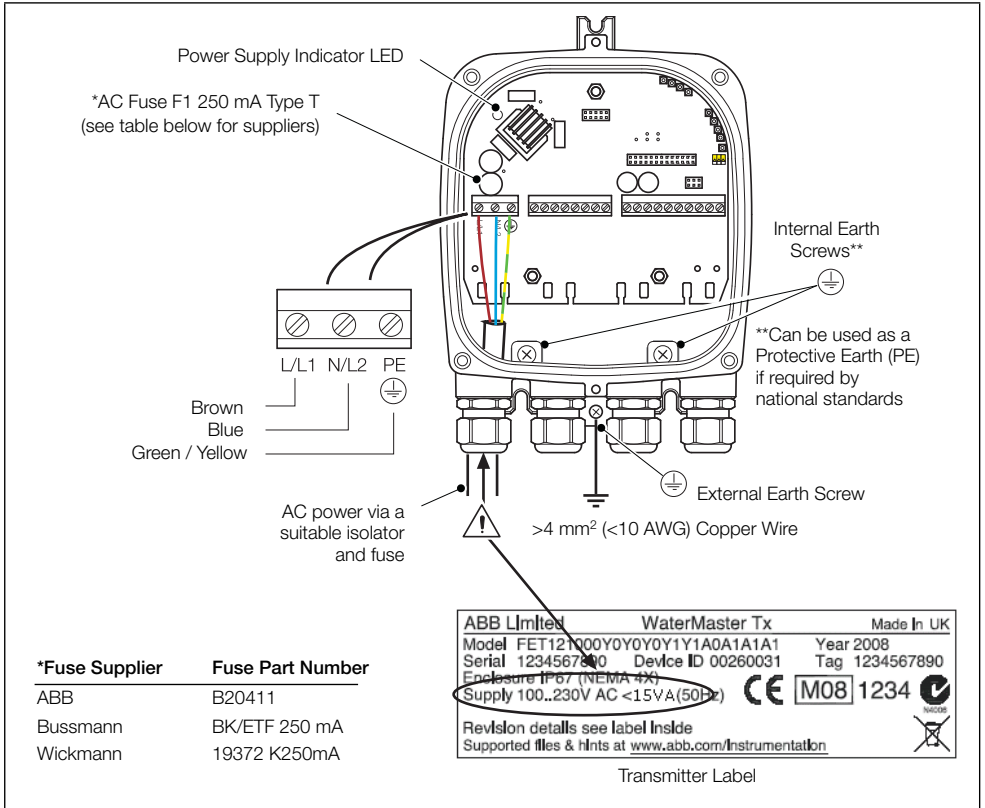
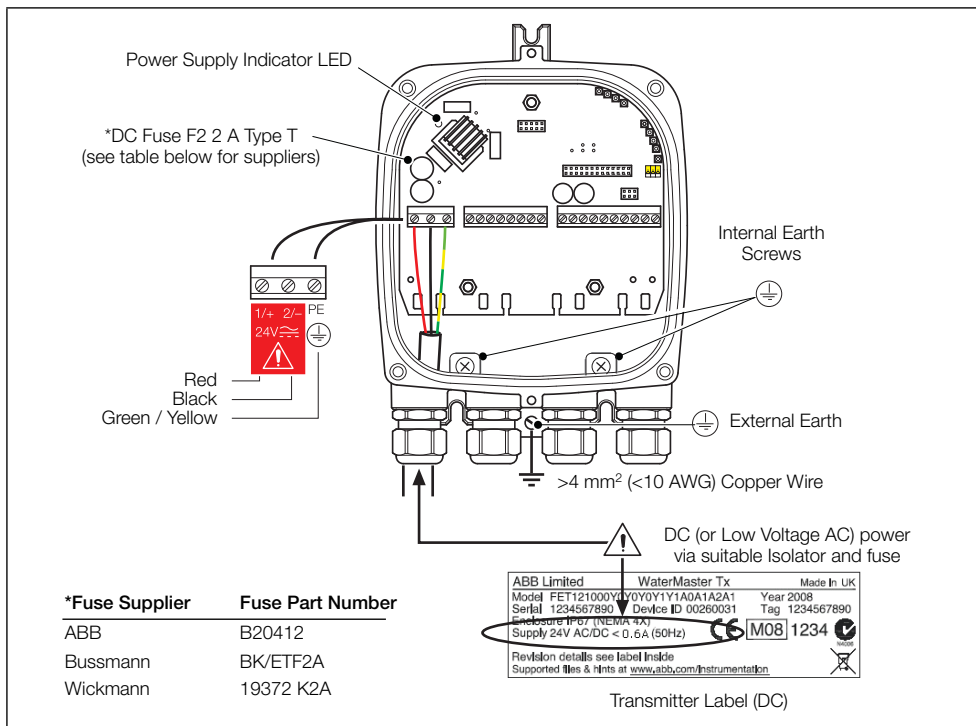

Fig. 3.7 AC power supply connections
Fig. 3.8 DC (and low voltage AC) power supply connections
- Replace fuses with the correct part – see Fig 3.7, page 17 (AC power) and Fig. 3.8, page 18 (DC power).